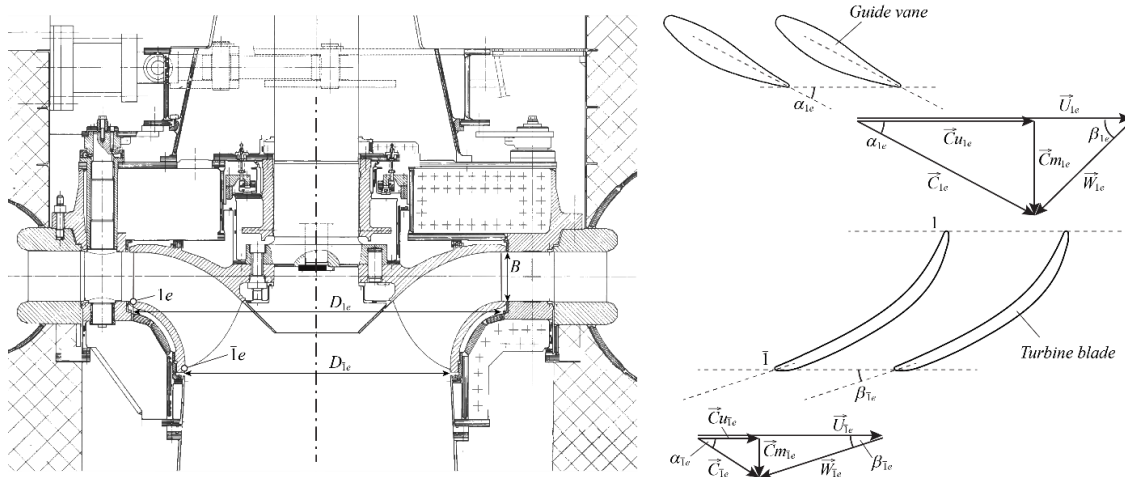

Figure 1. Scheme of the hydropower plant with its characteristics.
The meridional view of a Francis turbine and one example of the velocity triangle are sketched in Figure 1. For a Francis turbine, the angle of the absolute flow velocity at the inlet α_{1e} corresponds to the guide vane opening degree, and the angle of the relative flow velocity at the outlet corresponds to the outlet blade angle β_{1e} , as shown in Figure 1. Referring to the figure, answer the following questions.
- 3) Give the meridional components of the flow velocity $C_{m_{1e}}$ and $C_{m_{1e}}$ as functions of the discharge Q and the volumetric efficiency η_v by using the geometrical parameters defined in the left part of Figure 1.